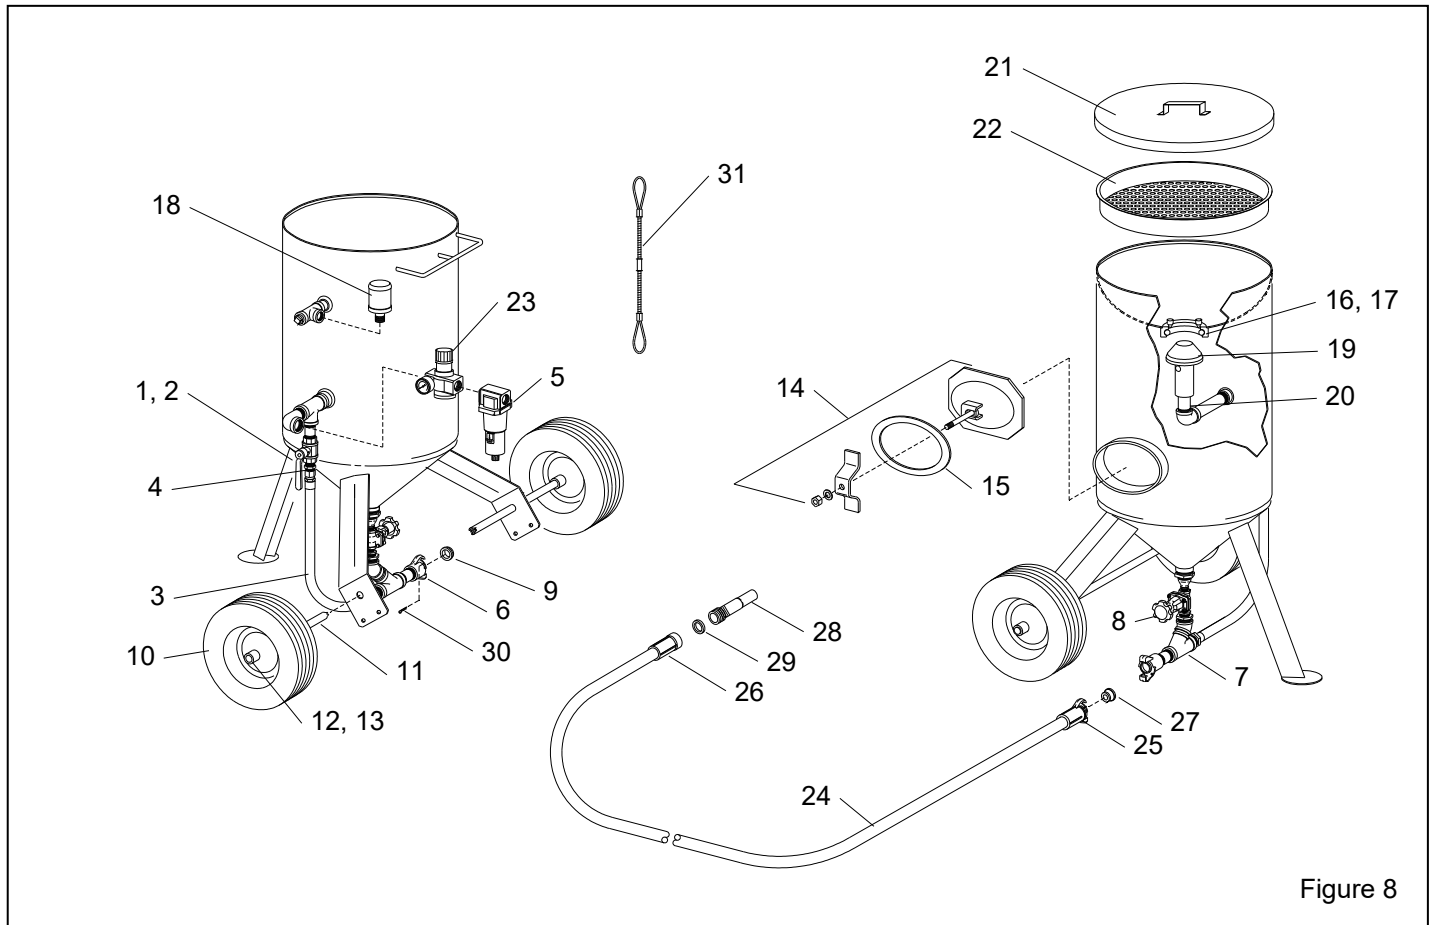

Figure 8
7.1 Blast Machine and Accessories, Figure 8